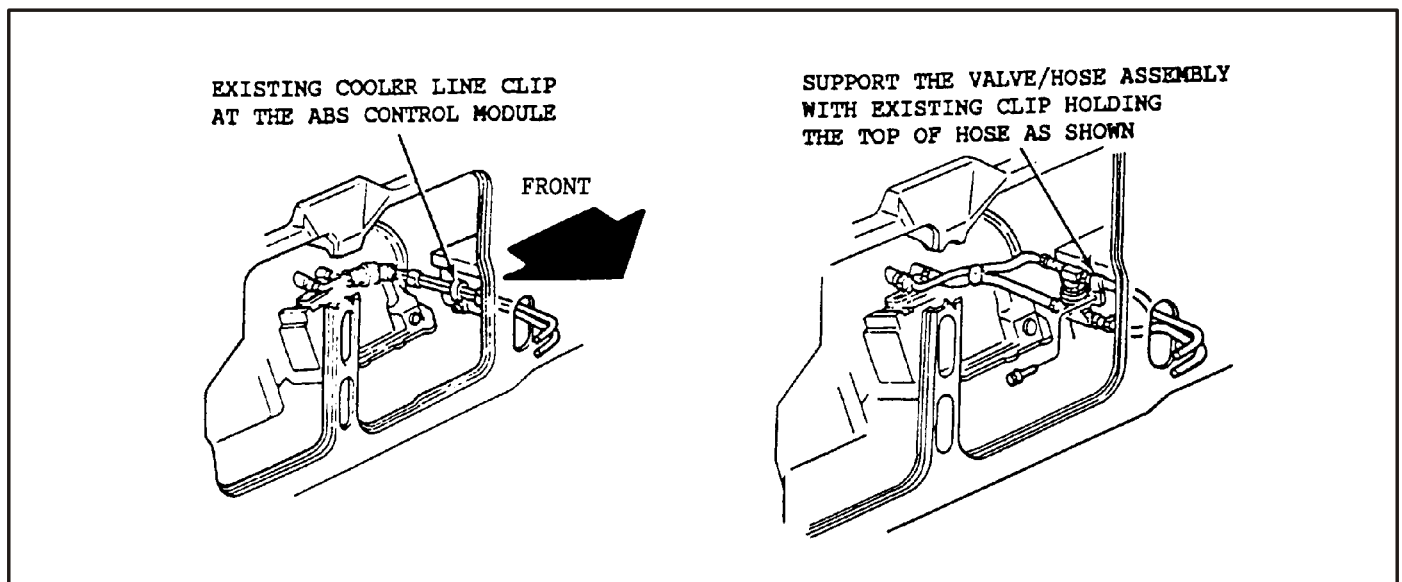

Figure 5
1. The existing cooler hoses are retained by a clip at the ABS Module, as shown in Figure 5. Drilling of a hole is not required on this model.
7. Re-install the retaining clip to support the bypass valve assembly, as shown in Figure 5, and tighten all hose clamps and retaining clip.
8. The bypass valve assembly MUST be positioned vertically (See Figure 5).